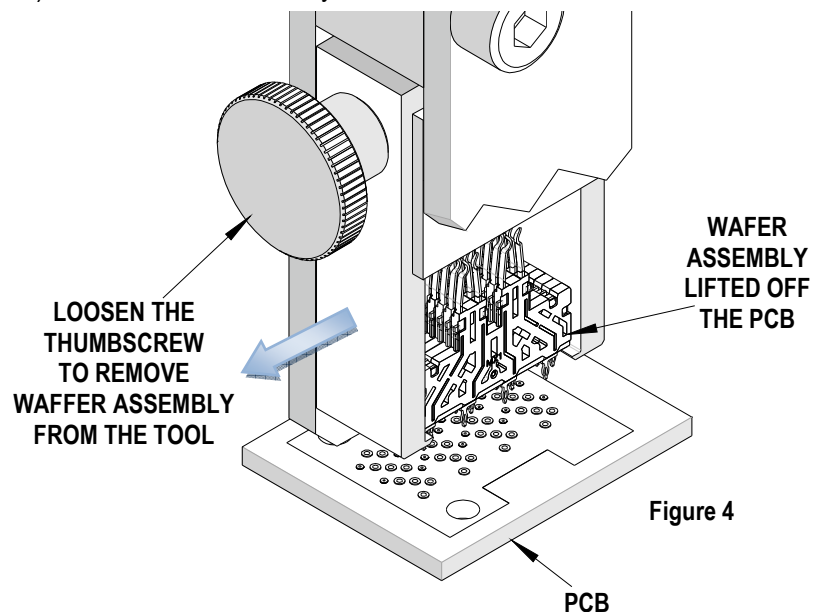

Figure 4
3. Turn the handle clockwise (CW) until the bottom of the end supports contact the board surface.
4. Continue turning the T handle clockwise (CW) until the wafer assembly is removed from the PCB. See Figure 4.